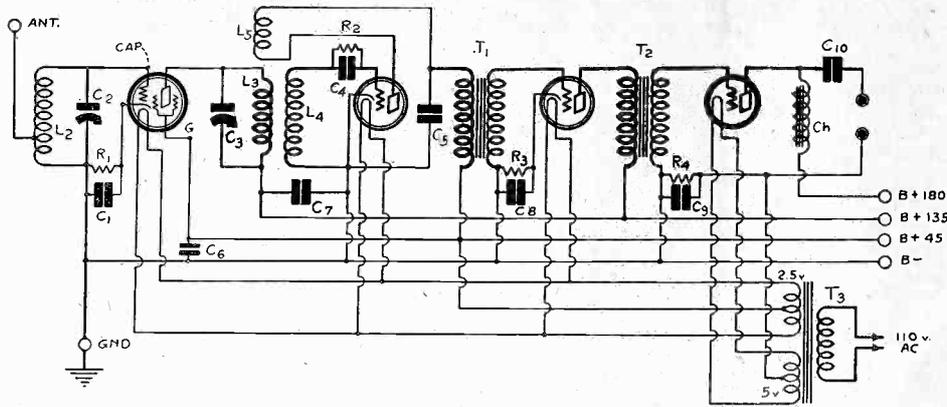

FIG. 732
(1) See Fig. 732.
(2) Yes, the grid bias resistors take care of the grid voltage. Use following values: R1, 750 ohms; R3, 1,000 ohms; R4, 2,000 ohms.
(3) Yes, it is selective and sensitive.